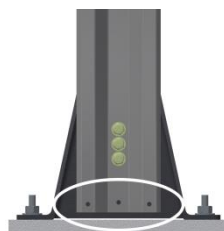

Figure 4
3. Lift until there is a 1/4" to 1/2" gap underneath each leg. (Figure 4)